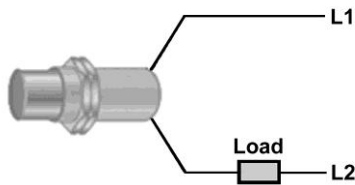

Figure 6-14 Circuit for question 19.
19. The circuit shown in Figure 6-14 is that of a 19. _____